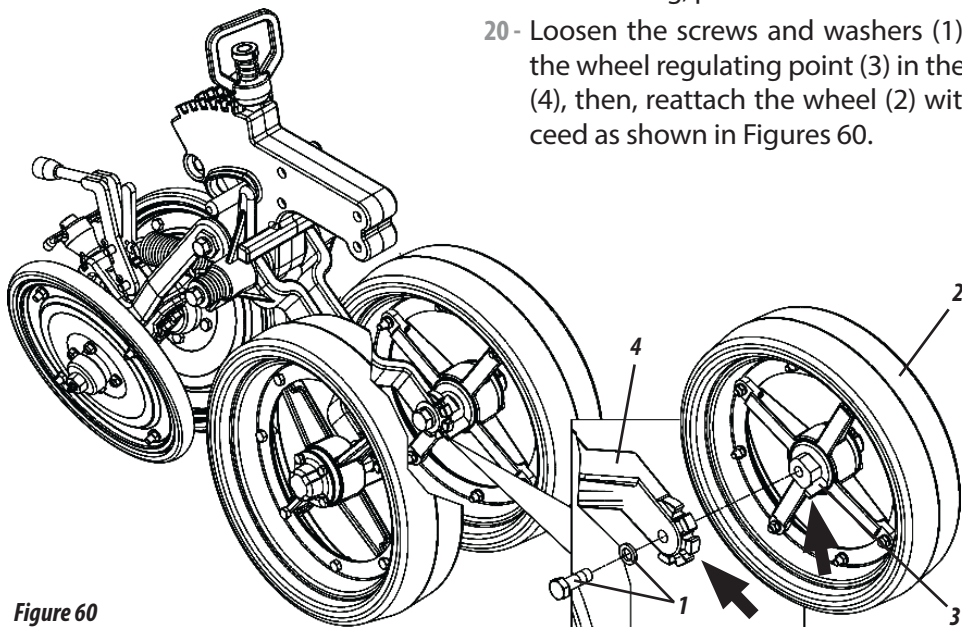

Figure 60
- The angle of the depth limiting wheel (1) is intended to press the furrow, causing the soil to be immediately placed on the seed, avoiding excessive compression, facilitating germination and plant growth. For this setting, proceed as follows:
20- Loosen the screws and washers (1), remove the wheel (2), adjust the wheel regulating point (3) in the adjustment of the wheel shaft (4), then, reattach the wheel (2) with washers and screws (1), proceed as shown in Figures 60.